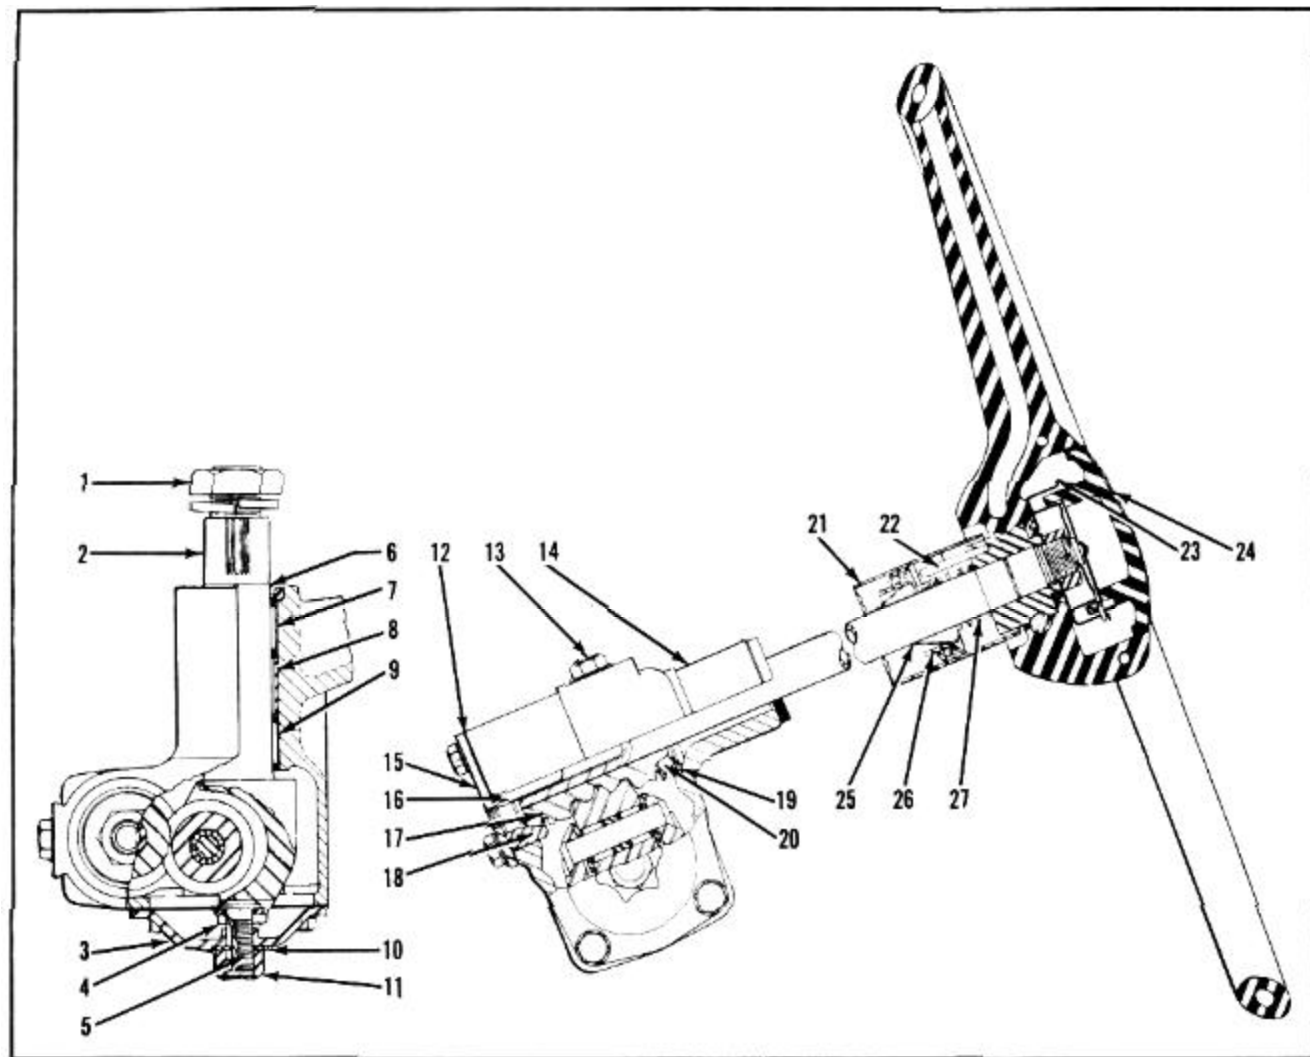

FIGURE 2
2. Push down on horn button (24), Figure 2, and rotate to release button from retainer and remove button.
4. Lift out contact cup (23) and remove horn wire.
2. Install horn button (24) Figure 2, retainer, and lockwire.
4. Insert horn wire into steering column tube and through large opening in contact cup (23). Move insulator sleeve into small opening with flange of sleeve on top of contact cup.